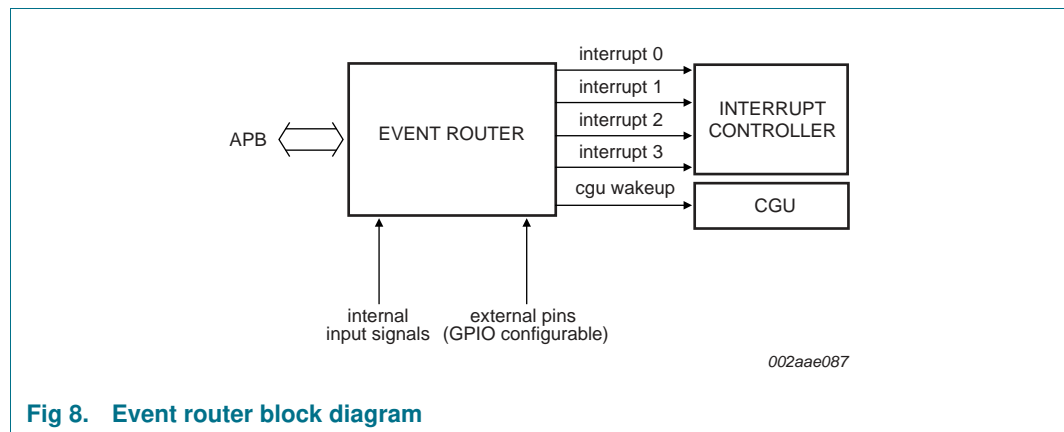

Fig 8. Event router block diagram
The event router has four interrupt outputs connected to the interrupt controller and one wake-up output connected to the CGU as shown in Figure 8. The output signals are activated when an event (for instance a rising edge) is detected on one of the input signals. The input signals of the event router are connected to relevant internal control signals in the system or to external signals through pins of the LPC3130/3131.
**Remark:** All pins that can be used as GPIO are connected to the event router (see Figure 8). Note that they can be used to trigger events when in normal functional mode or in GPIO mode.